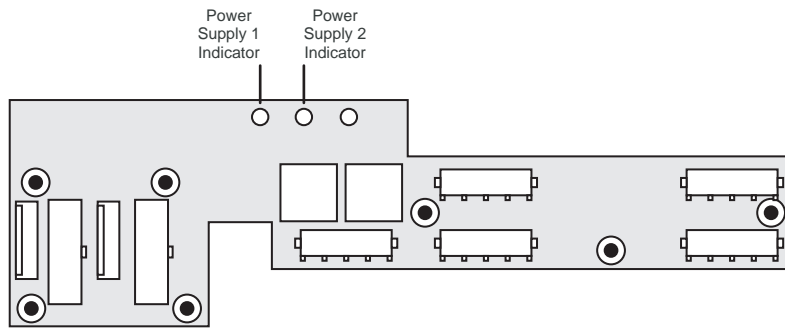

Figure 18.2 Power Distribution Board — Power Supply Indicators
5. Locate the **Power Distribution Board** (**Figure 18.2**) at the back of the tub above the **Control Panel CPU Module**.
6. Using the **Power Supply Indicators (Figure 18.2)**, identify the power supply that has failed. If a power supply is not providing power, or is not installed, the **Power Supply Indicator** will not be lit.